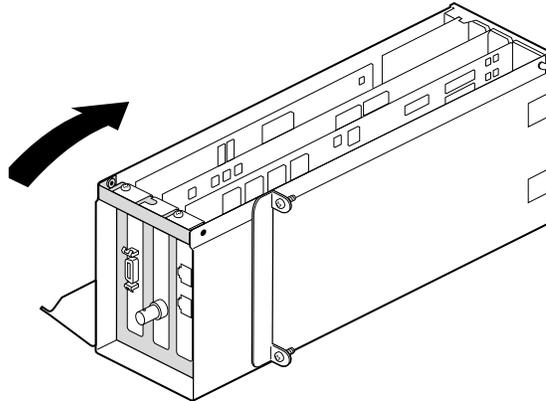

Figure 4-40 Closing the I/O Door
6. Close the I/O door, as shown in Figure 4-40.